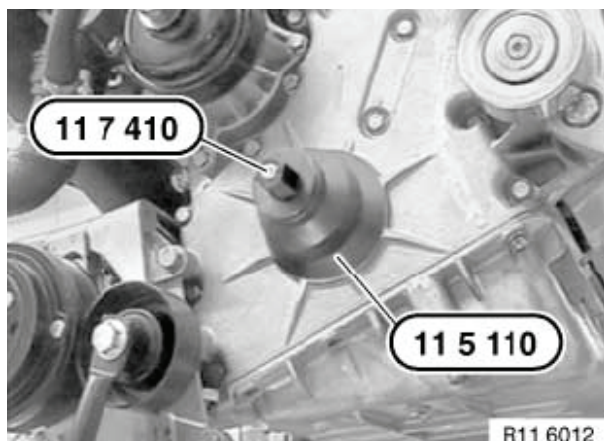
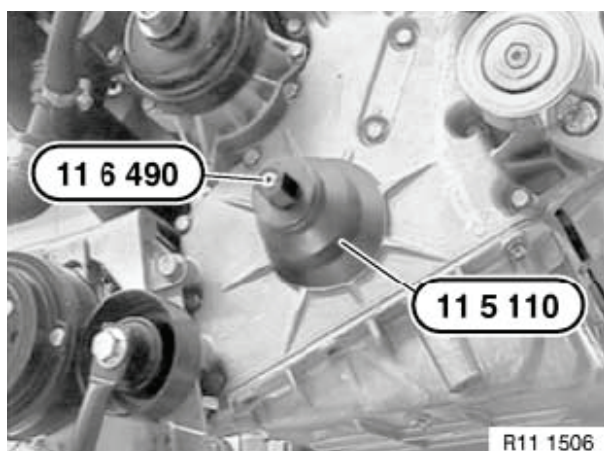

Figure 5-125
Figure 5-126
9. Install center screw OEM No. 11 7 410 (4BY2) or 11 6 490 (6BY2) in end of crankshaft (**Figure 5-125** or **Figure 5-126**).